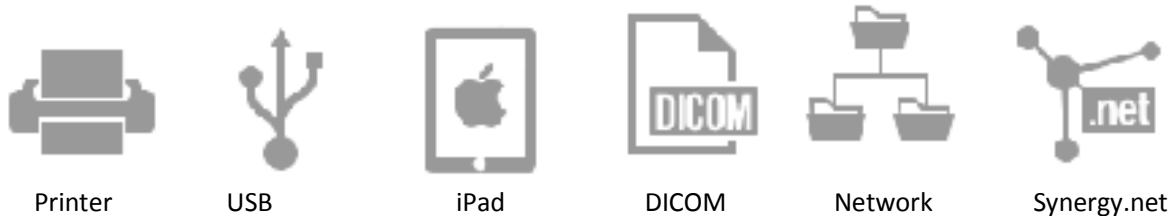

Figure 24-Connectivity Icons
2.4.1 Figure 24 shows what is displayed on a surgical monitor when a Synergy^{UHD4} is first powered on.